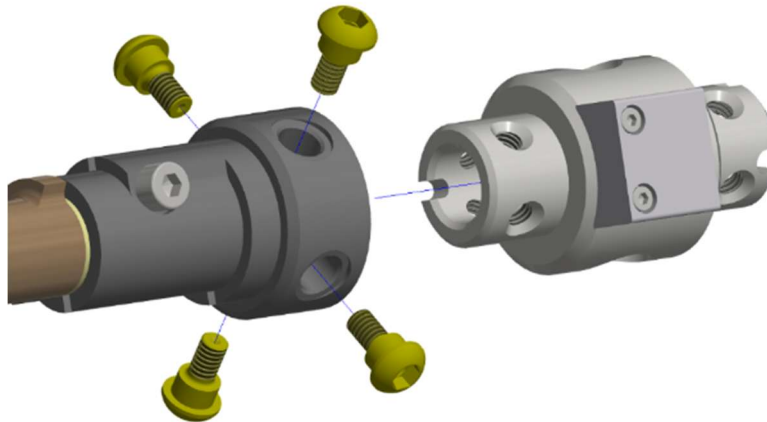

Figure 11-26. Connect the Lower Arm Load Cell Structural Replacement (484-6106) to the Lower Arm and Wrist Assembly (474-6700)
- 11.3.3 Connect the Lower Arm Load Cell Structural Replacement (484-6106) to the Lower Arm and Wrist Assembly (474-6700-1,2) using four Modified BHSS M6 Thread (W50-61042) (Figure 11-26).